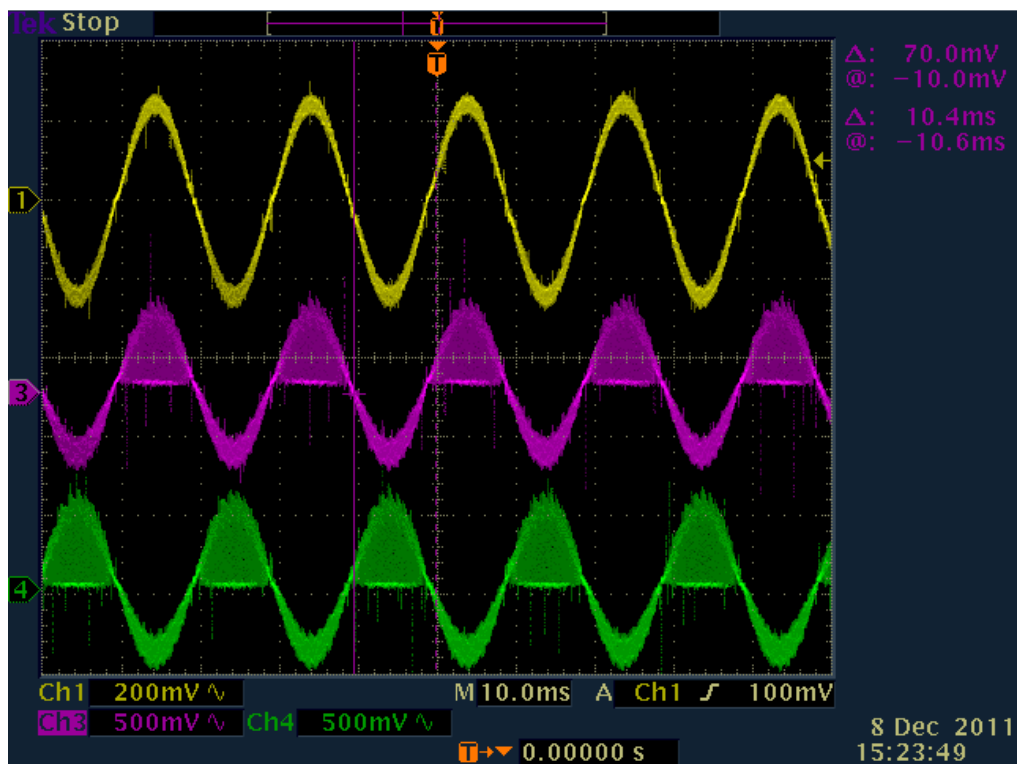

Fig 24 Inverter Current Measurement
22. Monitor inverter leg currents, marked as Ileg1-fb and Ileg2-fb on the board, on oscilloscope to ensure that the current feedback is fed to the controller as expected. Fig 24 shows oscilloscope capture of these waveforms.